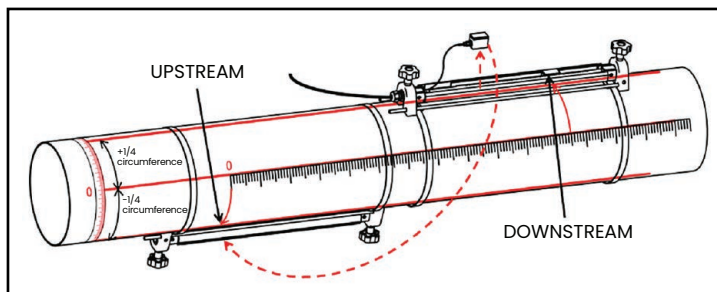

Figure 21: 1 Traverse installation for transducer spacing >320 mm
For a one traverse installation with a calculated transducer spacing of >320 mm for a 1 MHz or 0.5 MHz transducer, two clamp-on fixtures are installed on opposite sides of the pipe. To install this configuration, refer to *Figure 21* below and complete the following steps:
- b. Remove the upstream transducer from the first fixture (see *Figure 21* below). Disconnect the transducer cable and route the cable into the second fixture.